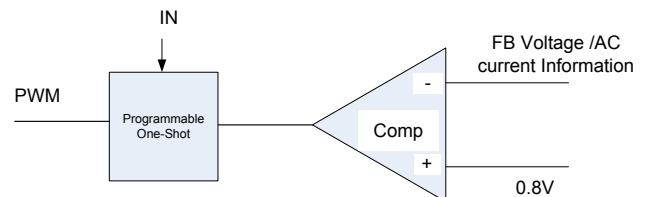

Figure 2. Simplified Control Schematic of AOZ2263AQI-18
The simplified control schematic is shown in Figure 2. The high-side switch on-time is determined solely by a one-shot whose pulse width can be programmed by one external resistor and is inversely proportional to input voltage (IN). The one-shot is triggered when the internal 0.8V is higher than the combined information of FB voltage and the AC current information of inductor, which is processed and obtained through the sensed lower-side MOSFET current once it turns-on. The added AC current information can help the stability of constant-on time control even with pure ceramic output capacitors, which have very low ESR. The AC current information has no DC offset, which does not cause offset with output load change, which is fundamentally different from other V² constant-on time control schemes.